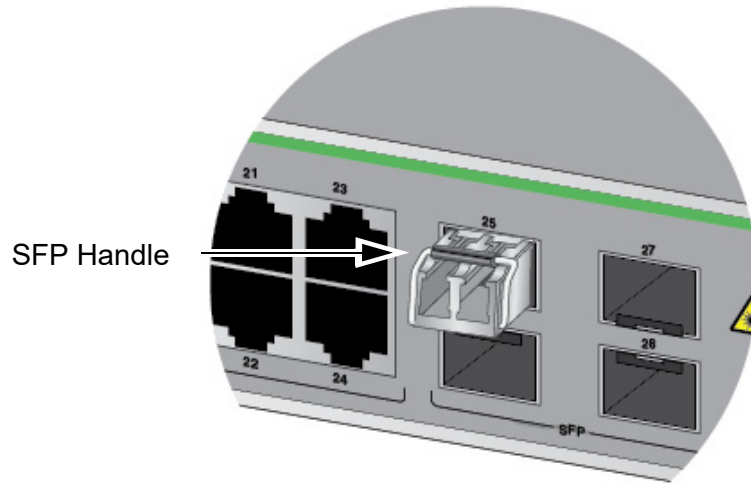

Figure 42. Positioning the SFP Handle in the Upright Position
5. Verify the position of the handle on the SFP transceiver. If the transceiver is in a top slot, the handle should be in the upright position, as shown in Figure 42. If the transceiver is in a bottom slot, the handle should be in the down position.